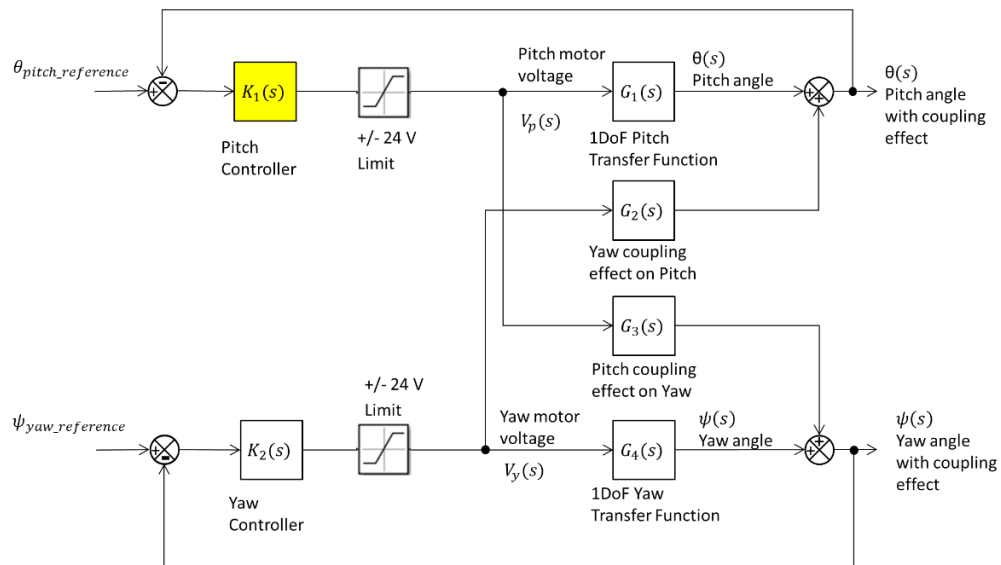

Figure 7: 2DOF helicopter control system with limit on the control action.
- 28) Analyse the multiple-input and multiple-output (MIMO) 2DoF helicopter model (See Figure 7) and explain the coupling effect when implementing both the pitch 1DoF model system and the given yaw controller system.